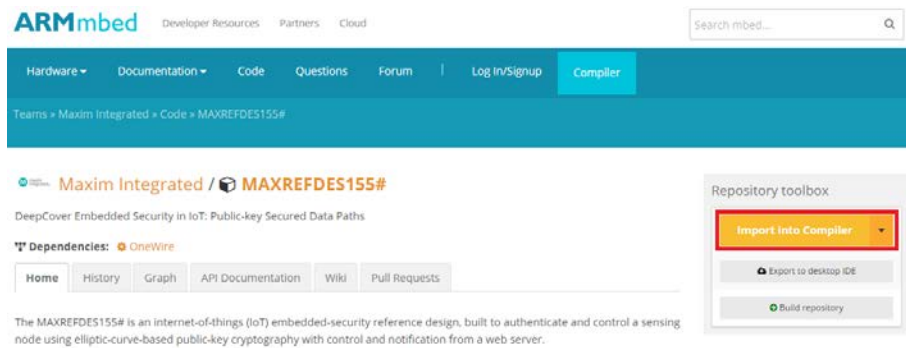

Figure 1. *Import into Compiler* button.
2. Import the latest revision of the program into the online compiler by clicking on the **Import into Compiler** button in the mbed repository page (**Figure 1**). A free mbed account is required to access the online compiler.